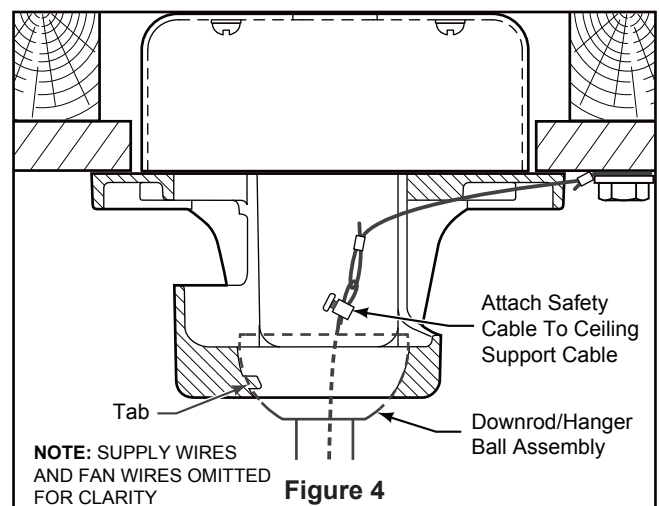

Figure 4
4. Slide downrod into the downrod support on top of the motor. Install the clevis pin by aligning the holes in the downrod support with holes in the downrod. Secure clevis pin with hairpin clip. Tighten the two set screws with locking nuts in the downrod support. (Figure 4)
4. Carefully lift the fan and seat the downrod/hanger ball assembly onto the hanger bracket that was just attached to the outlet box. Be sure the groove in the ball is lined up with tab on the hanger bracket. (Figure 4)
5. Attach the safety cable to ceiling support cable. Slide cable clamp and washer onto safety cable (from fan). Place the end of cable through the loop of ceiling support cable. Pull as much cable through loop as possible. Feed end of cable into clamp hole and firmly tighten screw. (Figure 4)
3. Connect wires using connectors as shown in Figure 4.
4. Remove one of the three screws in light plate assembly. Retain the screw for later and slightly loosen the remaining two screws. (Figure 4)
- 4.** To make fan operational, install two 3V batteries (included) in hand-held remote transmitter, with fan power off. Then, follow the remote code setting process. If not used for long periods of time, remove battery to prevent damage to transmitter. Store the remote away from excessive heat or humidity. (Figure 4)